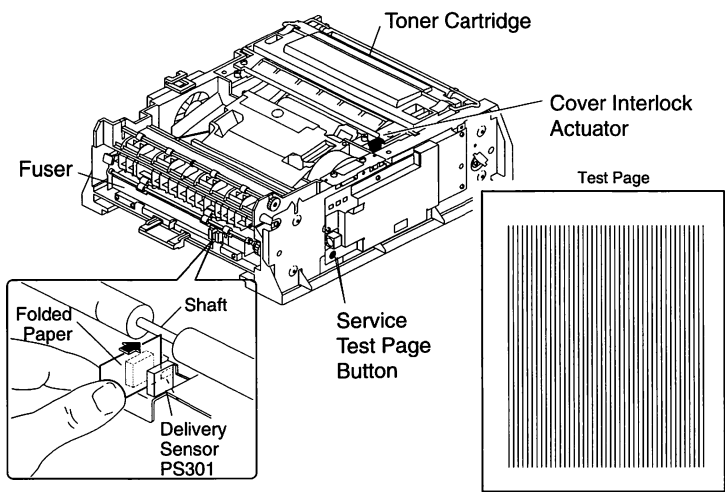

Figure 54. Printing a Service Test Page on the Personal LaserWriter 320
4. Defeat the paper delivery sensor, PS301, with a piece of folded paper, as shown in Figure 54. Insert the paper only until it touches the metal shaft of the fuser. If you insert the paper too far, the sensor remains open and the printer determines that a paper jam exists.